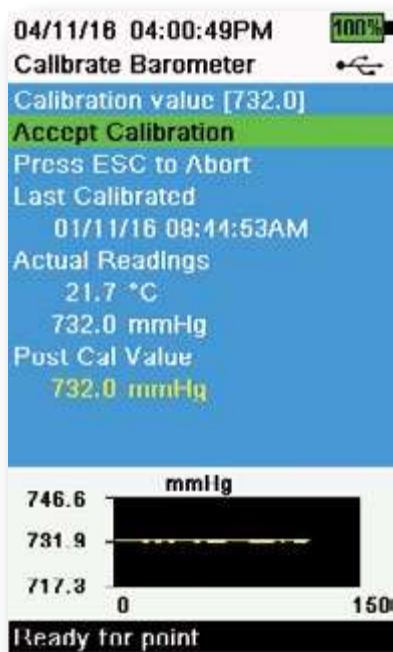

Figure 51 Calibrate Barometer
- Select **Accept Calibration** (Figure 51). "Calibration successful!" will be displayed in the message area.